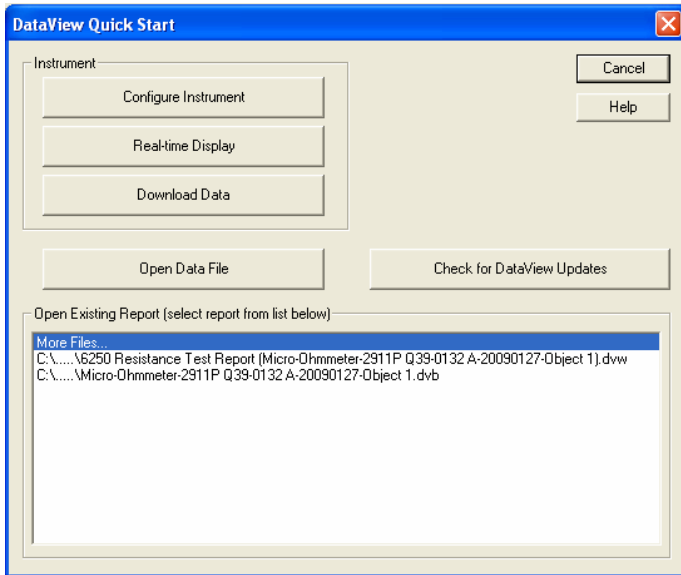

Figure 1
- DataView will open and display the **DataView Quick Start** window (Figure 1).